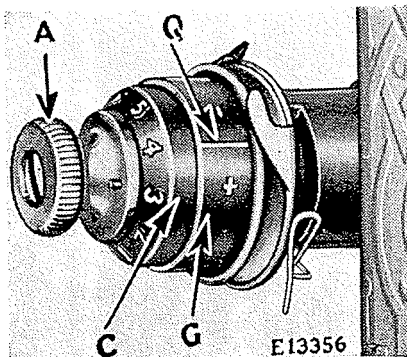
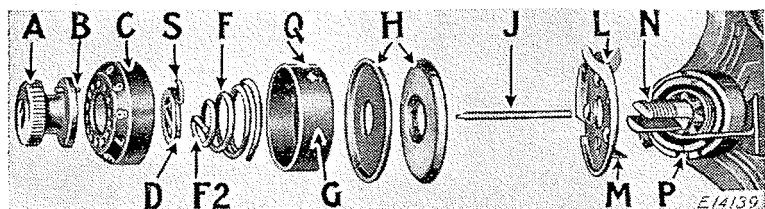
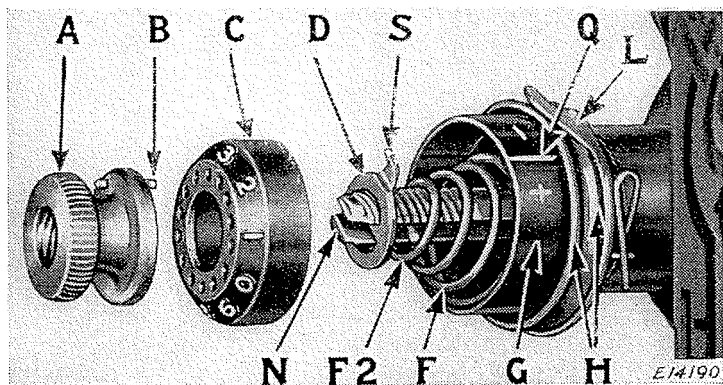

FIG. 18. NEEDLE THREAD TENSION
FIG. 19. NEEDLE THREAD TENSION DISASSEMBLED
FIG. 20. REASSEMBLING AND REPLACING THE TENSION
The numbered dial (C, Fig. 18) is marked with numbers ranging from 0 to 9, which indicate different degrees of tension which can be produced. The numbers do not denote a particular size of thread.
**CAUTION**—It is important for the tension thumb nut (A, Fig. 18) to have a firm fit on tension stud (N, Fig. 19), to keep the numbered dial (C) in the position set for the required tension. To remedy a loose fit of the nut, remove parts A, C, D, F and G, Fig. 20, and slightly spread the stud, then re-assemble the parts as instructed on pages 22 to 24 inclusive.
**NOTE:** The needle thread tension, Figs. 18 to 20 inclusive, is correctly adjusted at the factory to produce the complete range of tensions with one revolution of the thumb nut (A).
Turn the thumb nut (A, Fig. 19) away from you (toward the left) until it stops at "0" on the num-
bered dial (C); then press in the dial to disengage the pin (B) in the thumb nut and remove the thumb nut, dial, stop washer (D), tension spring (F), indicator (G), the two tension discs (H), thread guard plate (L), and the tension releasing pin (J), as shown in Fig. 19. To remove the pin (J) from the stud (N), take off the face plate and tilt it so that the pin will drop out.
stud, being sure that the lug (M, Fig. 19) engages the short recess (P) to prevent the plate from turning on the stud. Next, place the two tension discs (H) on the stud, having the flat thread-bearing sides of the discs together; then replace the indicator (G) with the large open side facing end of stud so that the plus and minus signs will be readily seen from a sewing position as shown in Fig. 20. Insert the tension spring (F) in the indicator so that the first half turn of this spring will straddle the lower half of the tension stud. Guide the stop washer (D) onto the stud so that the extension (S) will be above the tension stud as shown in Fig. 20.